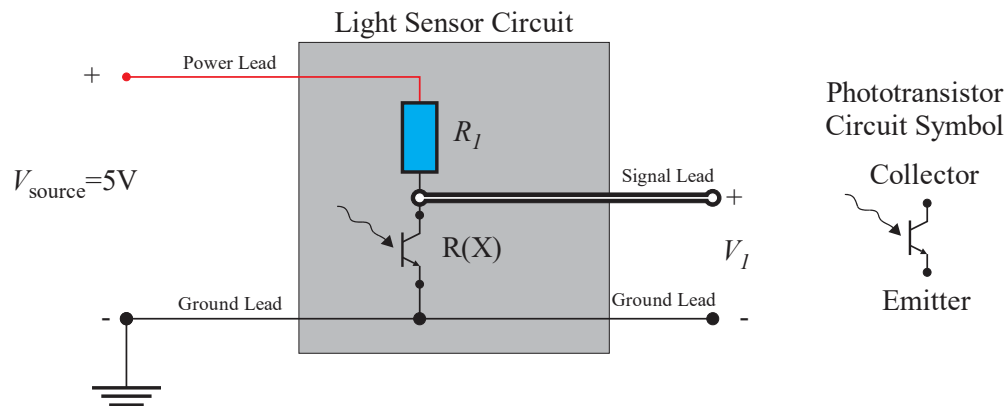

Fig. 1: Voltage divider circuit
As was explained in the plenary lectures, the basic circuit for sensor connection to the VEX controller is the voltage divider circuit shown in Figure 1. The sensor has a resistance $R(X)$ which is a function of X , an environment parameter of interest. The output voltage, V_1 , is then given by
There are several devices available whose electrical characteristics change with the presence of light. A commonly employed type of light sensitive device is the phototransistor. To use the phototransistor, it is placed in the position of $R(X)$ in Figure 1. The phototransistor is essentially a specially treated material, known as a doped semiconductor, which is conductive ($R(X) \rightarrow 0$) when illuminated by light at specific wavelengths and is non-conductive ($R(X) \rightarrow \infty$) at other times. Referring to Equation (1), if the phototransistor is placed in our voltage divider, $V_I = 0$ indicates intense light of the proper wavelength is detected as $R(X) \rightarrow 0 \Omega$, while $V_I \approx V_{source}$ indicates the presence of no light at the proper wavelength as $R(X) \rightarrow \infty \Omega$.
A phototransistor is a polarized device and, thus, must be inserted into the circuit in the correct orientation to work most effectively. The two terminals of the phototransistor are called the collector and emitter. For the best operation, the phototransistor should be inserted so there is a positive voltage applied to the collector terminal relative to the emitter terminal. If it is inserted backwards, the sensitivity of your phototransistor will be severely reduced. In this case, it will have a higher resistance when illuminated as compared to when it is properly installed which will lead to a smaller variation of the output voltage from the illuminated to non-illuminated state. For the voltage divider circuit of Figure 1, the collector terminal of the phototransistor is connected to the signal lead and the emitter terminal is connected to a ground lead of an ANALOG VEX port. When this is done, you can read a value proportional to the voltage V_I with a function call within your RobotC programs.